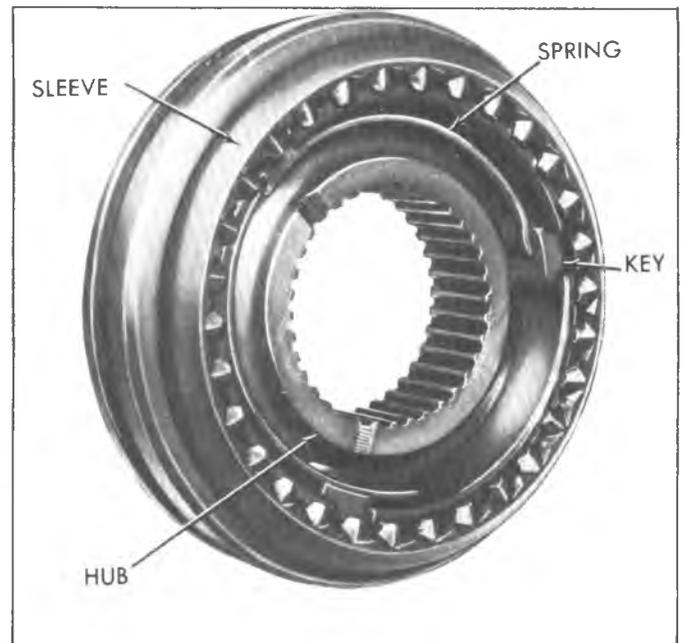

Fig. 4A--Synchronizer Assembly
3. Place the three keys and two springs in position (one on each side of hub), so all three keys are engaged by both springs (fig. 4A). The tapered end of each synchronizer spring should be installed into